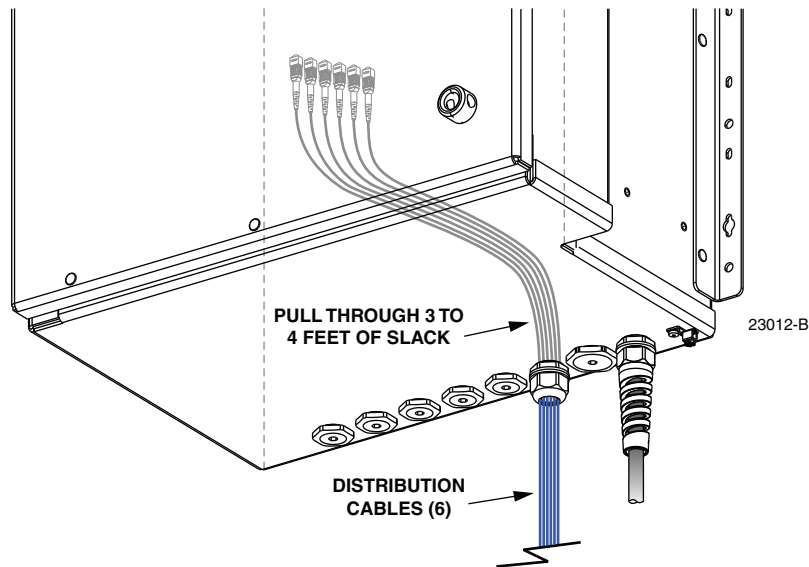

Figure 57. Inserting Distribution Cables into Compression Fitting
8. Insert the connectorized ends of the six distribution cables through the installed compression fitting as shown in Figure 57 and pull through 3 to 4 feet of cable slack into the cabinet.